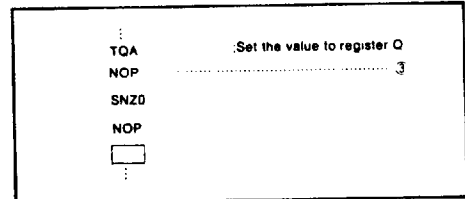

Fig.12 Example program-2
Also, more than one instruction is need before SNZO instruction (③)(see Figure 12).